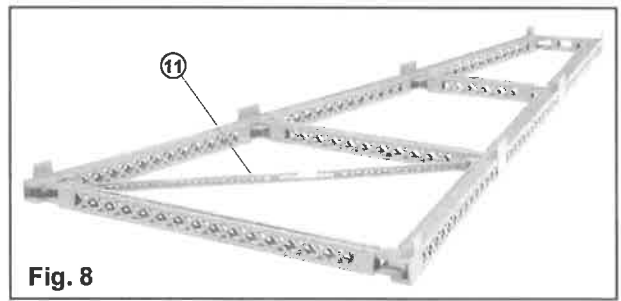

Fig. 8
Position, but do not cement, a bent X-brace, part (11), between the bent gusset plates at the upper right corner and lower left corner of the 3rd story. See fig. 8. Position the bent X-brace with the notch facing up and its lattice straps toward the top of the bent. Align the X-brace at each end with the rows of rivets on the bent gusset plates. Position the second bent X-brace, part (11), in the opposite two corners in the same way but with the notch down. Adjust the position of the two X-braces so their slots are centered on